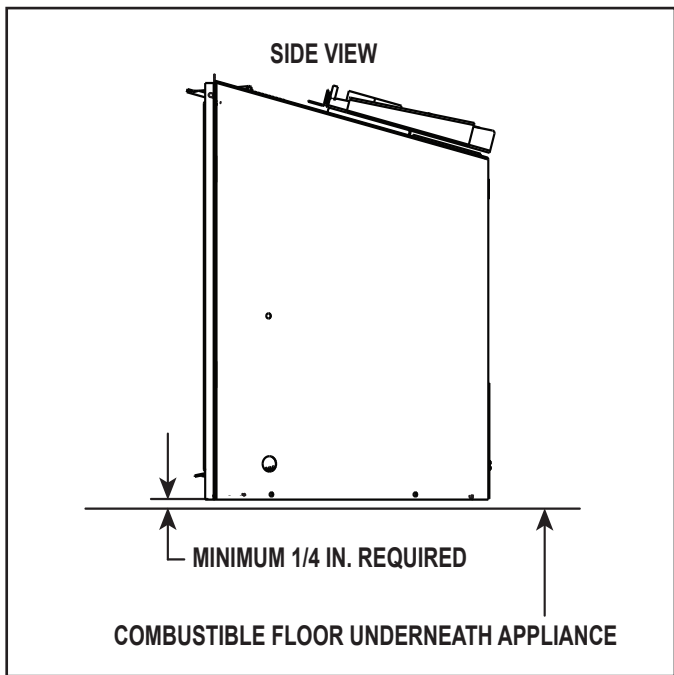

Figure 3.20 Solid Fuel Floor Clearance
- Combustible flooring underneath the appliance is acceptable with a 1/4 inch gap. See Figure 3.20.